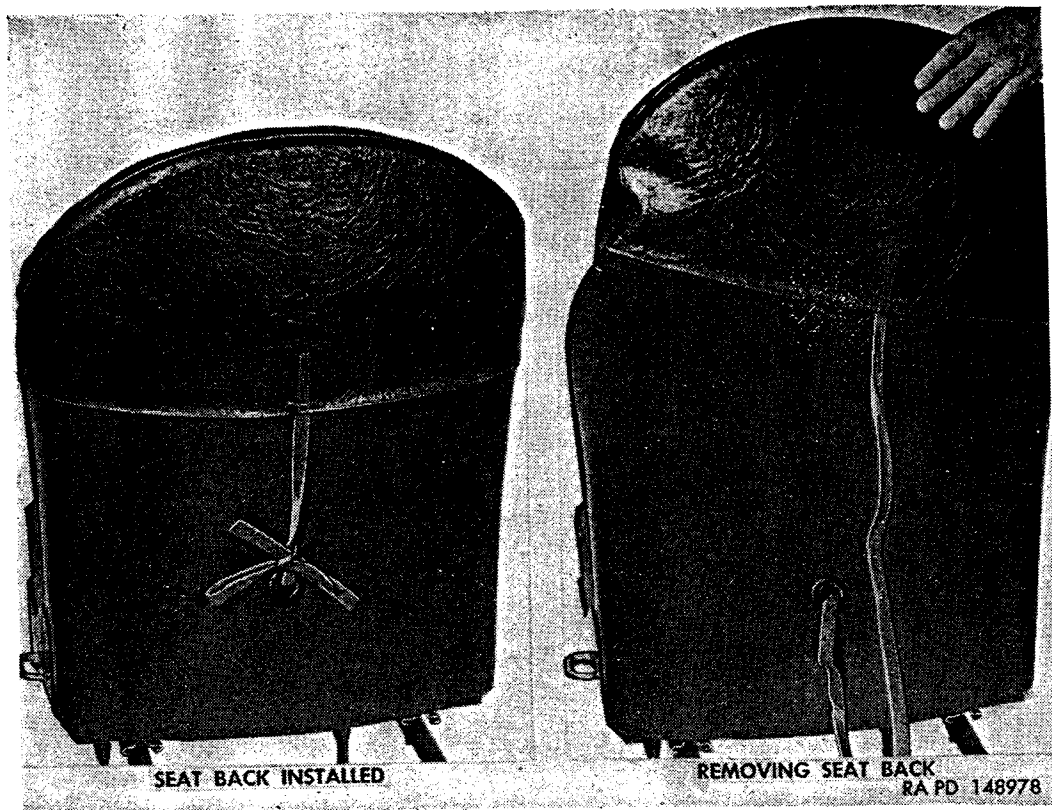

Figure 316. Driver's seat back cushion.
c. Installation. Position seat assembly in cab, with seat support rod engaged in seat support bracket (F) at floor. At rear of seat, swing driver's seat lock bolt (A) upward into engagement with bracket and seat frame. Tighten lock bolt wing nut (B).
(1) *Removal and disassembly.* Untie seat back cushion hold-down strap at back of seat; then lift cushion (fig. 316) from
- (2) *Assembly and installation.* Position seat cushion cover on padding and springs (fig. 317). Engage lacing cord under hooks at bottom of springs. Pull cord taut and tie. Insert pad in seat back cover, fold flap up, and tie straps. Place seat back cushion (fig. 316) on seat frame and tie holddown strap.